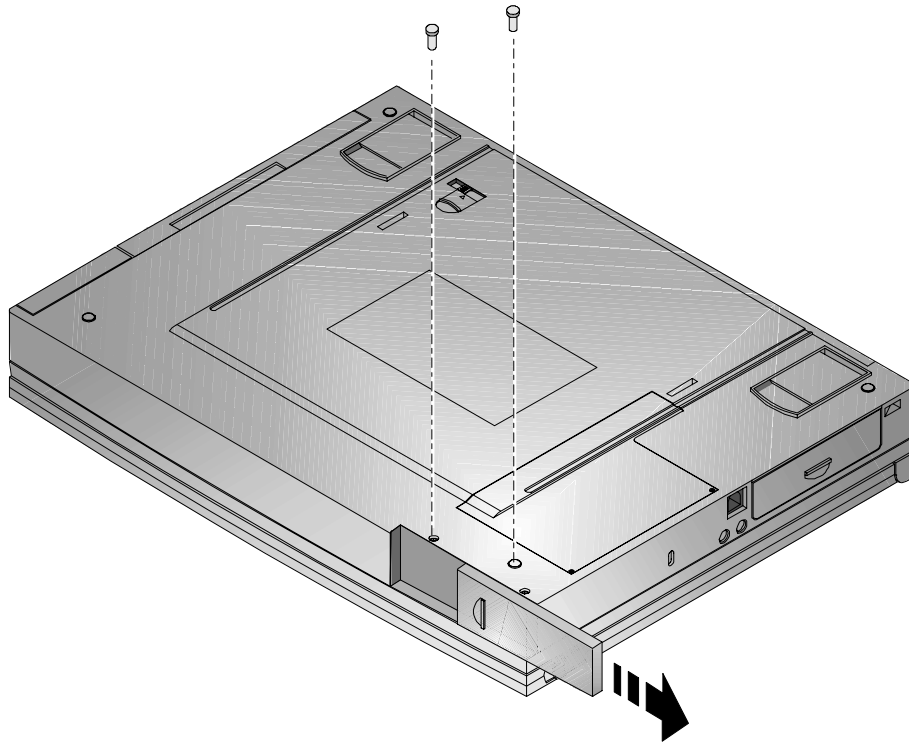
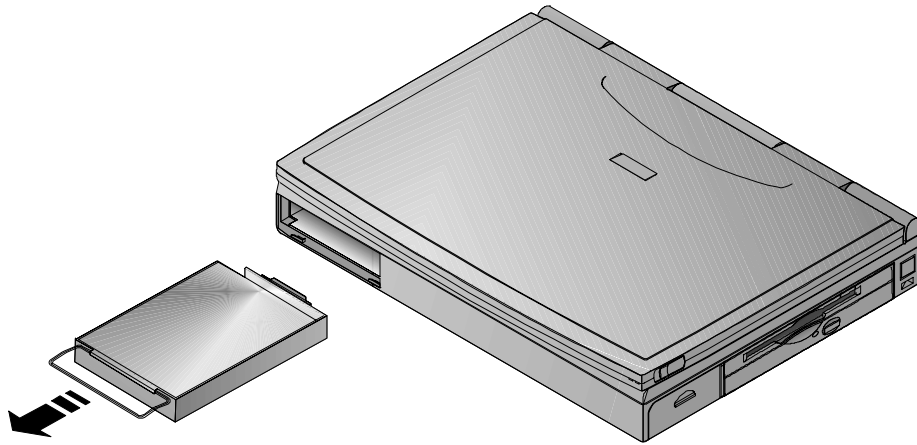

Figure 6-8: Removing the HDD (step 1)
Figure 6-9: Removing the HDD (step 2)
Eventually you may find that your notebook's HDDspace is limiting and you wish to upgrade to a larger capacity HDD to provide additional hard disk space. Please contact your Digital authorized notebook dealer for purchasing information. The installation of an additional HDD is relatively simple. Please refer to figure 6-8 and figure 6-9.
2. There are two Philips head screws located on the bottom of the notebook. They secure the HDD into the unit and prevent it from being damaged from vibrations. Remove these two screws. (Figure 6-8)
3. Slide the HDD module plastic cover in the direction of the arrows shown in figure 6-8.
4. Gently remove the HDD from its housing, by pulling on its handle in the direction of the arrows shown in figure 6-9.